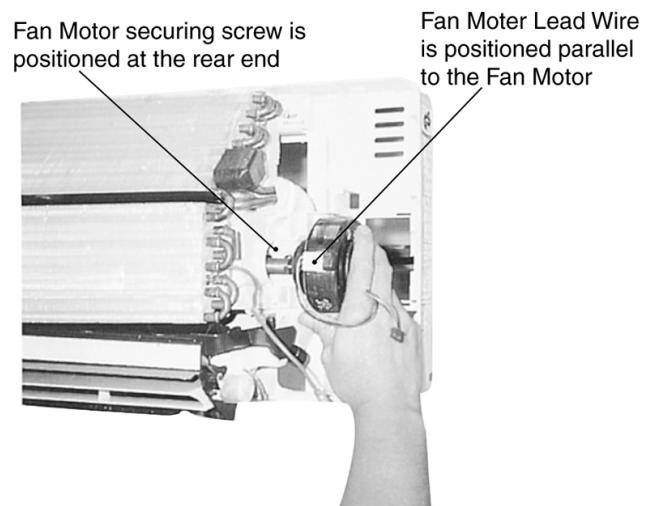

Fig. 8
- To fix the Indoor Fan Motor, ensure that the Fan Motor securing screw is positioned at the rear side and the Fan Motor lead wire is positioned parallelly with the Fan Motor. (Fig 8.)